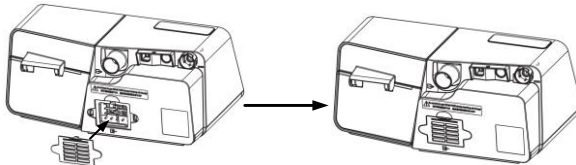

Fig. 12-3
(3) Install the filter cap containing the air filter/ disposable ultra-fine filter to the device, as shown in Fig. 12-3.